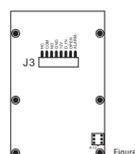

Figure 3
- Unplug the cable harness and connect the necessary cables (See Figure 3).
- Plug in the cable harness on the PCB (See Figure 3)